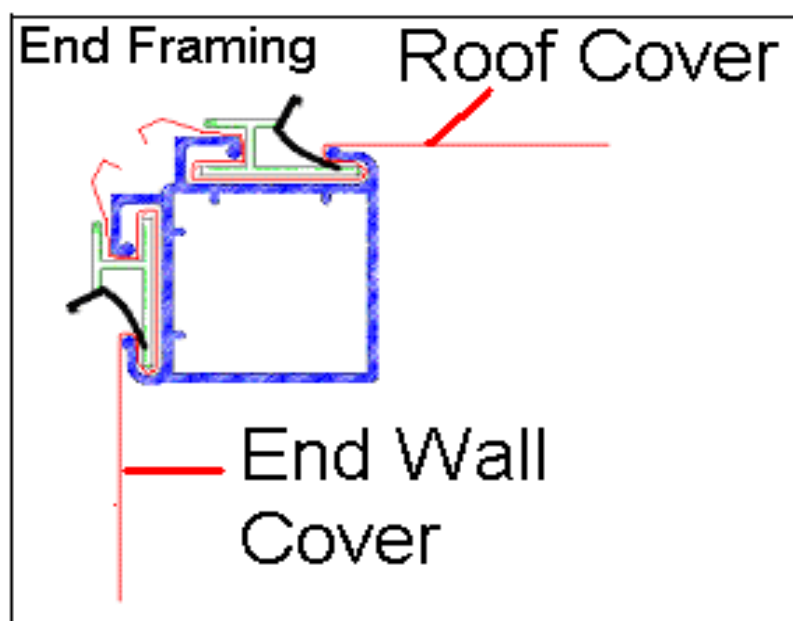

Fig 1
- There are three parts to the Redpath Lockstrip plastic film fastening system (1) The aluminium groove (shown in blue below); (2) The white locking strip (shown in green below); (3) The small black “L” shaped locking clips (shown in black below)
- Do not force the white locking strip into place as it might cut the plastic. Ensure that the “longest leg” fits into the rounded “bullnose shaped” part of the aluminium (see fig 1) Note: If the insert “jumps out” in windy conditions – it is very likely that it is installed backwards. The proper technique is to pull the film tight over the aluminium groove with one hand whilst positioning the white insert in readiness above the Lockstrip groove & film. Then in one motion release the tension & at the same time press the insert into the Lockstrip groove. Install the black locking clips as shown at 150mm spacing.